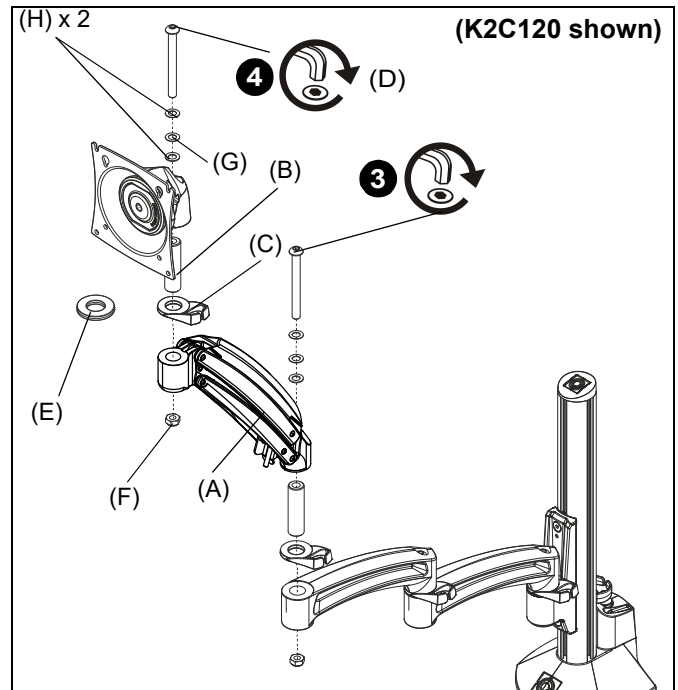

Figure 4
3. Use hardware removed in Step 1 to secure KRA240 arm to K2 mount. (See Figure 4)
4. Use 5/16-18 x 3 1/8" button head cap screw (D), two thin steel washers (H), 1/2" spacer (G), pivot pin (B), pivot pin spacer (E) or cable clip (C) and 5/16-18" hex nut (F). See Figure 4)